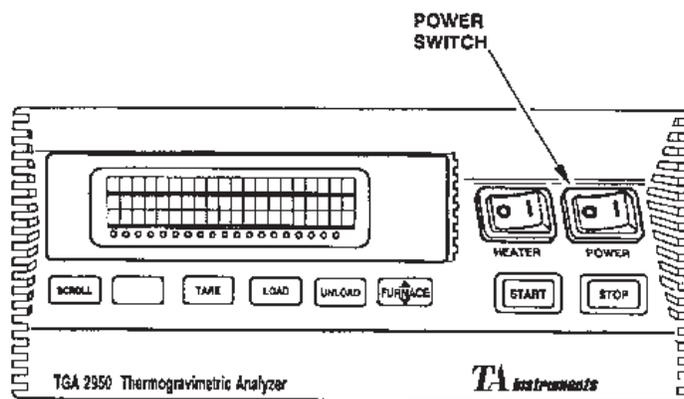

Figure 2.11
1. Make sure the TGA POWER switch (Figure 2.11) is in the Off (0) position.